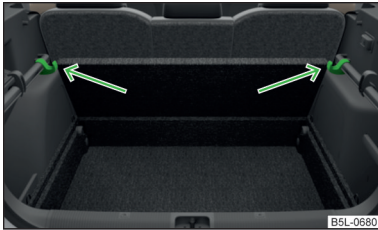

Fig. 112 Secured loading floor in the raised position
- Support the variable loading floor on the hooks folded downwards » Fig. 112.